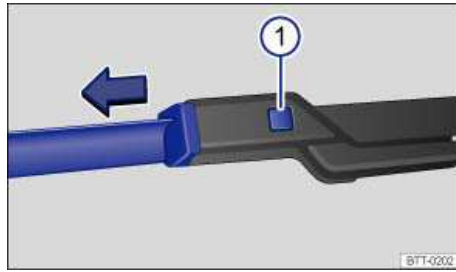

Fig. 176 Changing the windshield wiper blades.
- Press and hold the release button ⇒ fig. 176 \(1\) and pull off the wiper blade in the direction of the arrow.